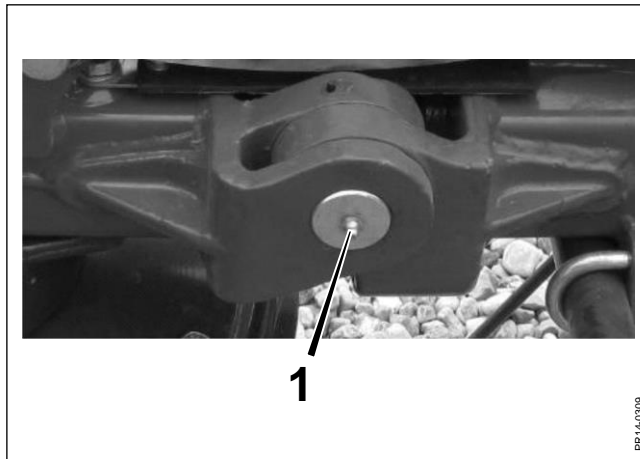

Fig.8-5
- Fig. 8-5 1. Hinge pins - 25 hours**